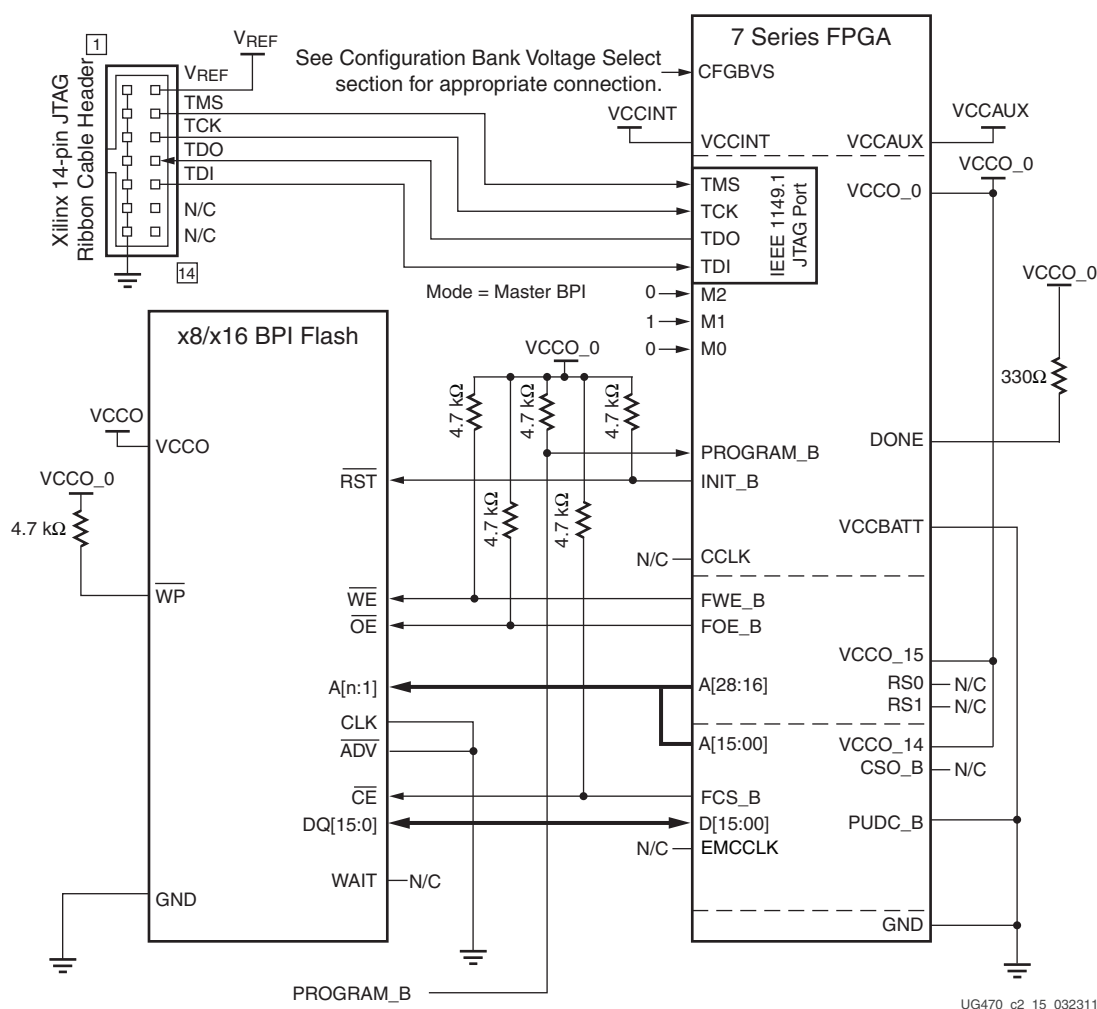

Figure 2-14: 7 Series FPGA Master BPI Configuration Interface - Asynchronous Read Example
By default, 7 series FPGAs use the asynchronous mode of the BPI flash to read bitstream data as shown in Figure 2-14, page 56. The FPGA drives the address bus from a given start address, and the BPI flash sends back the bitstream data. The default start address is address 0. The start address can be explicitly set in a MultiBoot reconfiguration procedure as outlined in Chapter 7, Reconfiguration and MultiBoot. In asynchronous read mode, supported bus widths of x8 and x16 are auto-detected as described in Bus Width Auto Detection, page 76.
Notes relevant to Figure 2-14:
4. Figure 2-14 shows the x16 BPI interface. For x8 BPI interfaces, only D[07:00] are used. See Bus Width Auto Detection, page 76.
7. The RS[1:0] pins are not connected as shown in Figure 2-14. These output pins are only required for MultiBoot configuration. See Chapter 7, Reconfiguration and MultiBoot.
11. The FPGA mode ($M[2:0]$) pins are shown set to Master BPI mode (010). The implementation of a board-level option that enables the user to change the FPGA mode pins to JTAG mode (101) is recommended to enable JTAG-based debug capability for the FPGA during design. This is not required, but the JTAG mode setting ensures that there is no interference from the Master BPI configuration during debug.